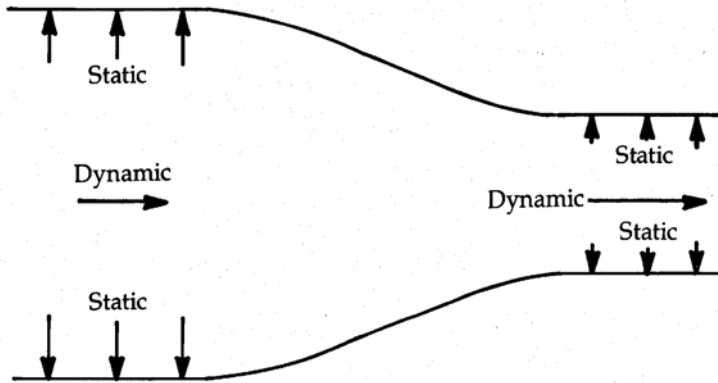
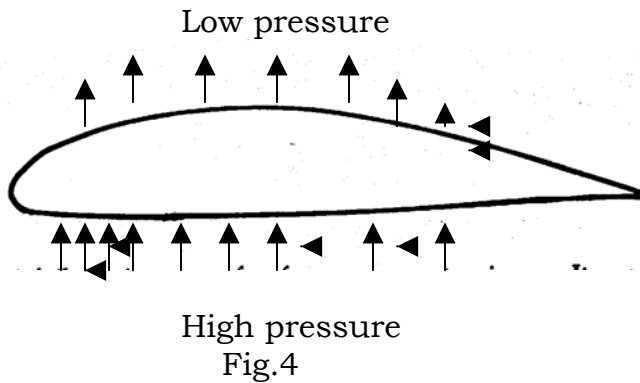

Fig.3
Fig.4
The laws of continuity state the area times the velocity equals a constant.  $A \times V = \text{constant}$ . In Fig. 3 if the static (area) on the left is 2 and the dynamic (velocity) on the left is 1, then the constant would be 2. As the air moves to the right and the static (area) becomes 1 and the dynamic (velocity) becomes 2 the constant is still 2.
Bernoulli's principle is based on Newton's second law of motion that says there is a requirement of an unbalanced force (pressure) to produce acceleration. When looking at the left side of Fig. 3, as the air moves to the right the dynamic pressure is increasing while the static pressure is decreasing. This creates a vacuum so if you were to hook a hose to the skinny part of Fig. 3 there would be suction. For example if the dynamic air entering to the right is a 2 and the static air is a 2 then the constant is 4.  $\text{static } (2) + \text{dynamic } (2) = \text{constant } (4)$ . As the air travels to the right the static pressure decreases to 1 and the dynamic pressure increases to 3 the constant is still 4.  $\text{static } (1) + \text{dynamic } (3) = \text{constant } (4)$ .
Now if you imagine that the bottom of Fig. 3 is the top of an airplane wing you can see that at the top of the wing there is low pressure, and according to Newton's laws there must be an equal and opposite reaction, therefore there is high pressure on the bottom side creating lift. (Fig. 4)
4. What type of pressure was hitting the sides of Fig. 3?